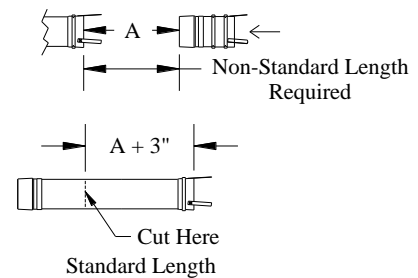

Fig 8. (Cutting Standard Lengths)
1. Measure the length of vent needed (Dim A) and add 3 inches to the result (See Fig. 8).